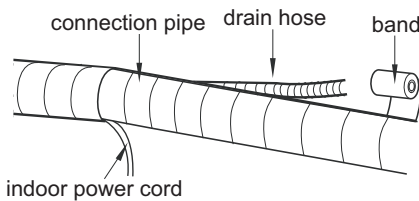

Fig.14
- 2.Reserve a certain length of drain hose and power cord for installation when binding them. When binding to a certain degree, separate the indoor power and then separate the drain hose.(As show in Fig.14)